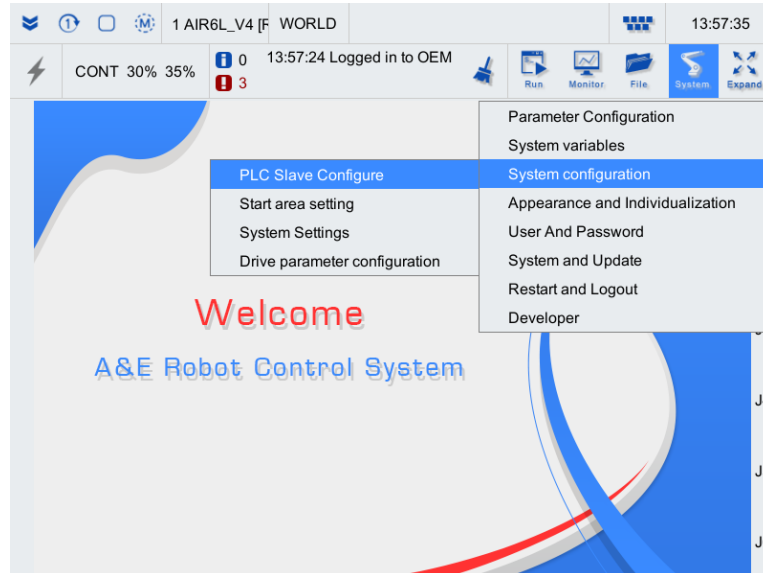

Figure2-11 Configuration selection of PLC slave
Step1. On the main interface of the teach pendant, click "System/System Configuration/PLC Slave Configuration" option, as shown in Figure2-11.